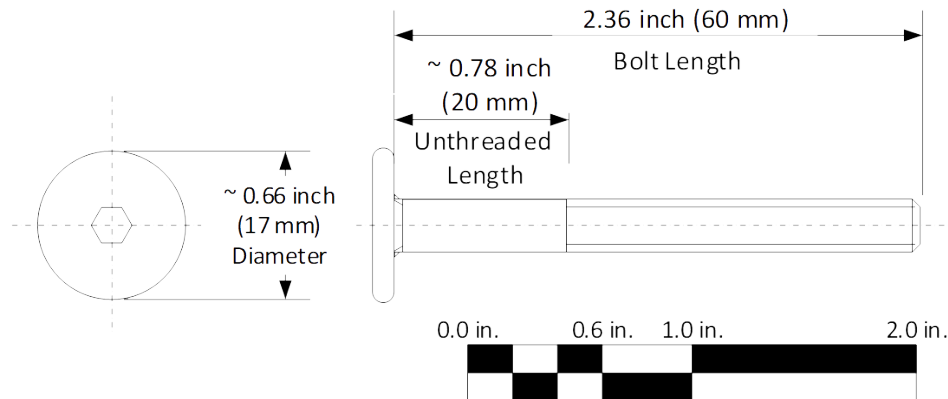

Figure 3 - Connector Bolt, $\frac{1}{4}$ -20 x 2.36 inches (60 mm) long
(1) The Mounting Bolt Assembly will consist of:
- (a) Connector Bolt, $\frac{1}{4}$ -20 x 2.36 inches (60 mm) long, with a 0.66-inch (17 mm) diameter head and 0.78 inch (20 mm) unthreaded section, 1 required. (Figure 3)